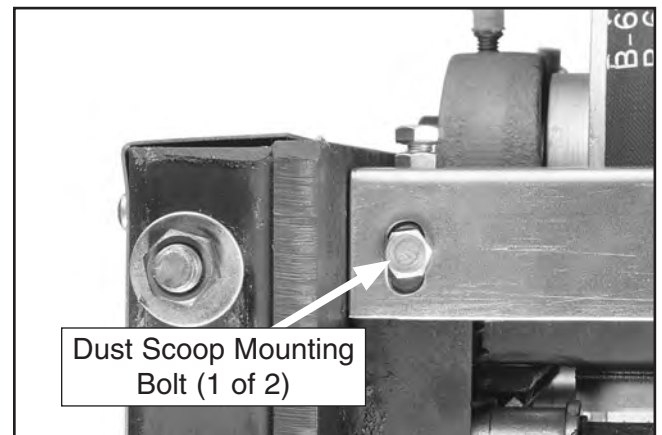

Figure 44. Location of dust scoop mounting bolts.
2. Place (2) gauge blocks of equal height under rear sanding drum and dust scoop. Raise table until gauge blocks just touch sanding drum.
3. Loosen dust scoop mounting bolts located at each end of scoop (see **Figure 44**).